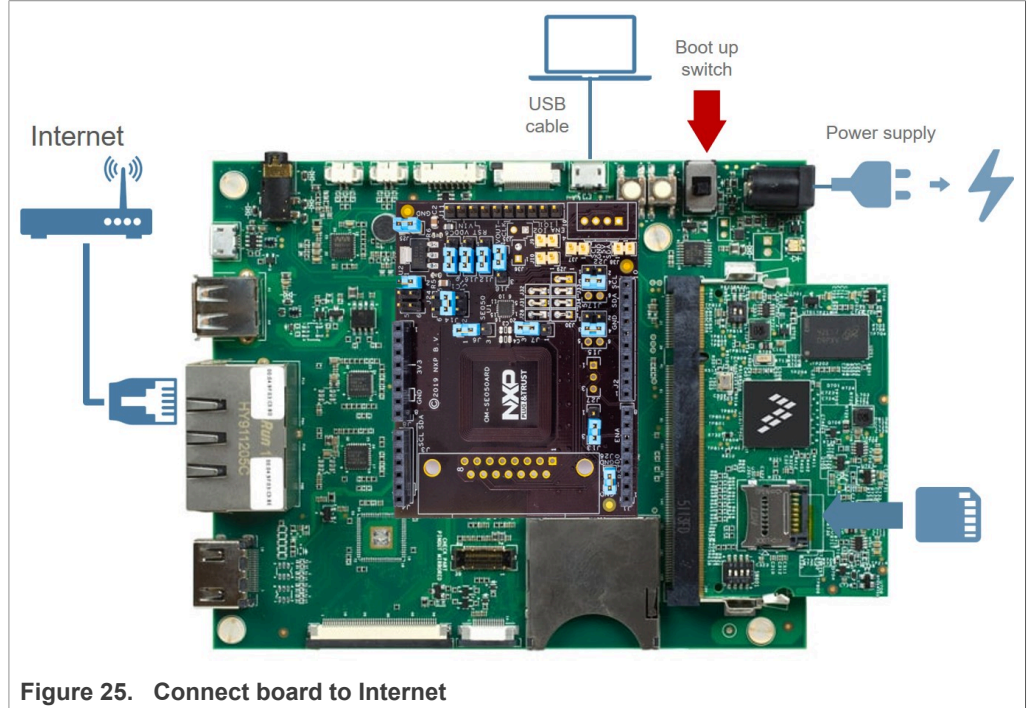

Figure 25. Connect board to Internet
1. Connect the board to Internet using an Ethernet cable and boot up the i.MX6UltraLite board as shown in Figure 25: